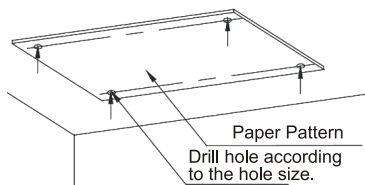
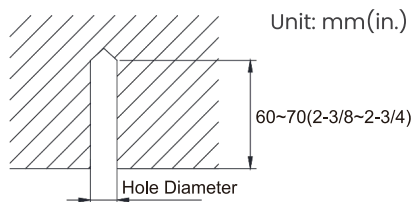

Fig 4.1.3
Fig 4.1.4
- a. Stick the reference cardboard on the installation position; drill 4 holes according to the hole size on the cardboard as shown in Fig 4.1.3; the diameter of the drilling hole is according to the diameter of the expansion bolt and the depth is 60~70mm($2\frac{3}{8}$ ~ $2\frac{3}{4}$ in.), as shown in Fig 4.1.4.